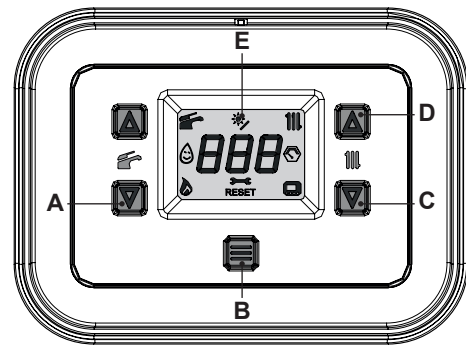
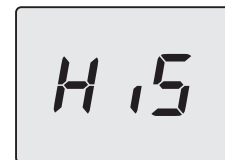

Figure 4.1
Figure 4.2
- 1 To enter in the parameters setting mode press at the same time the 2 keys "A" and "C" (Figure 4.1) and hold in for 5 second until the LCD display indicates the letters **HiS** Figure 4.2.
- 2 To enter the selected menu press key "B" (Figure 4.1) for 1 second.
- 3 Scroll the various fault code using keys "A" or "C" (Figure 4.1).
- press the "A" and "C" keys simultaneously for 5 seconds (Figure 4.1) (return to previous level).